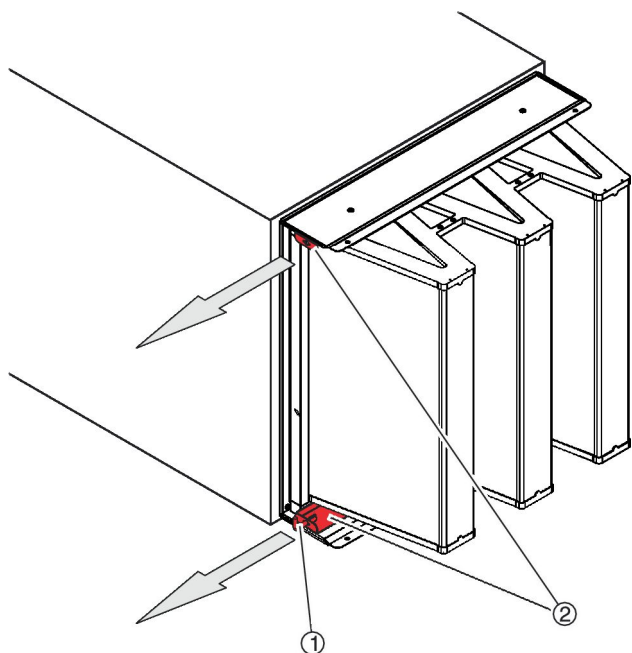

Fig. 62: Releasing the clamping rails
4. ▶ Use the special key ( Fig. 62 /1) to pull out the clamping rails ( Fig. 62 /2) as far as they will go.